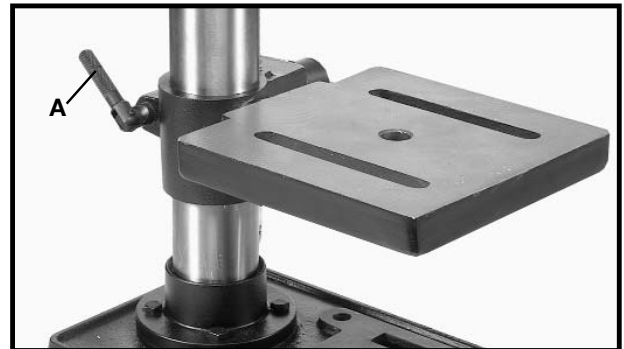
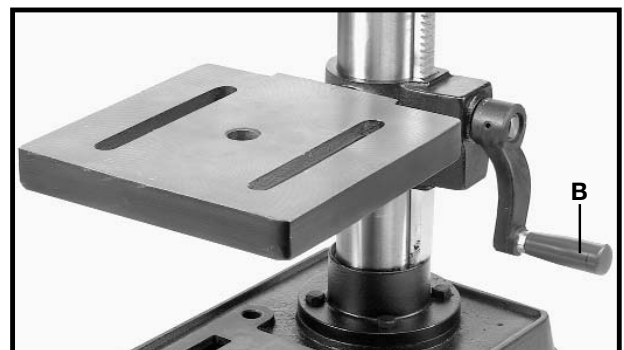

Fig. 20
Fig. 21
1. The table can be raised or lowered on the drill press column by loosening the table clamp (A) Fig. 20, and turning the table raising and lowering handle (B) Fig. 21. After the table is at the desired height, tighten clamp (A) Fig. 20. **NOTE:** Final positioning of the drill press table should always be from the bottom to the top position.
2. The table can be rotated 360 degrees on the column by loosening clamp (A) Fig. 20, rotate table to desired position and tighten clamp (A).